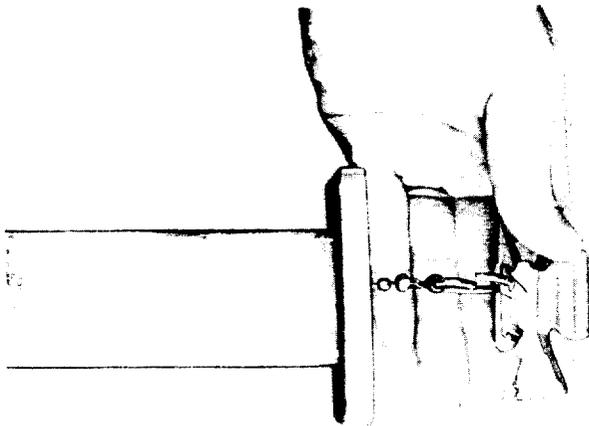
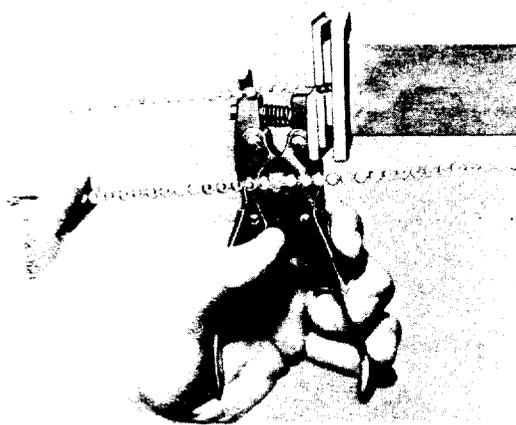

Fig. 12—Index Plate Attached to Bead Chain
Fig. 13—Engaging Bead Chain with Tensioner
**4.13** Place the flange on the waveguide and fasten the index plate to the hook on the bead chain (Fig. 12). Seat the flange squarely on the end of the waveguide and seat the index plate in the flange. Pull the chain tight from the opposite end of the waveguide section and, while maintaining tension on the chain, place the plier tensioner on the factory flange, squeeze the plier handles together, and engage the bead chain (Fig. 13). Release the plier handles and check that the tension on the bead chain is sufficient to hold the field flange firmly in place.